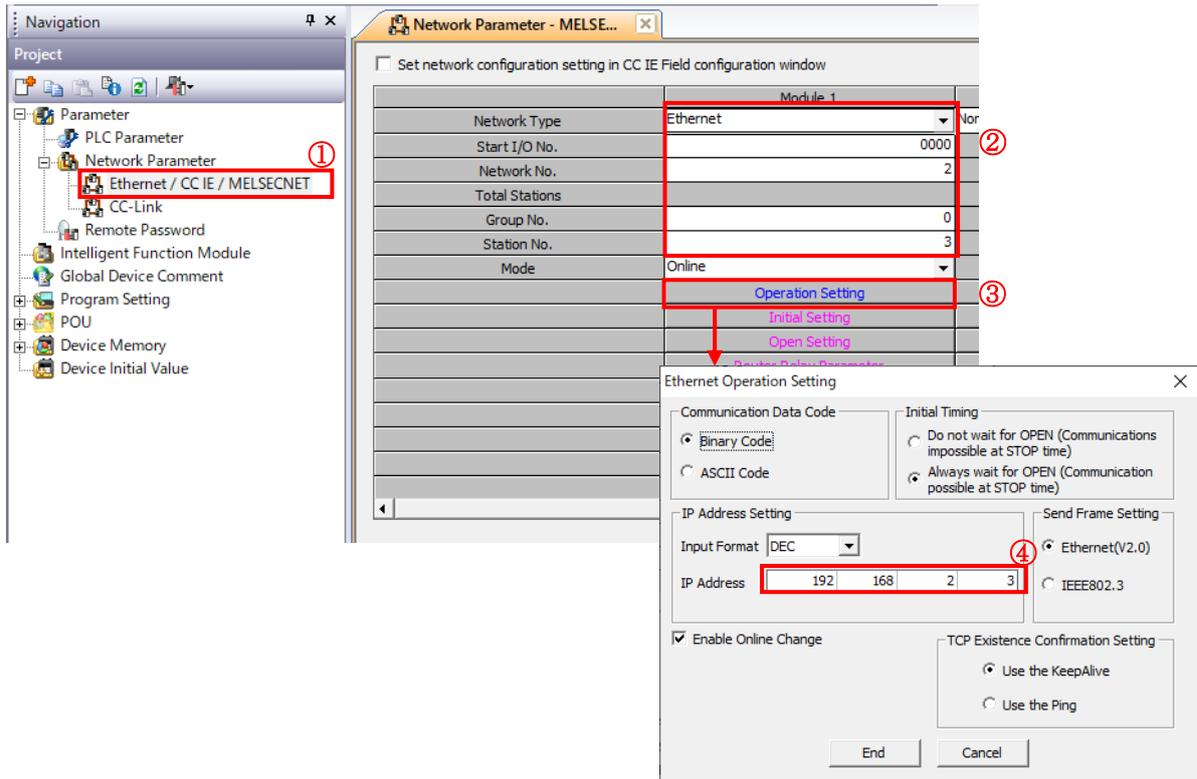

Figure 4-6 Extension Ethernet unit settings (Child PLCs)
① to ④ in Figure 4-6 show the setting steps of Expansion Ethernet Unit 1.
- ① From the navigation tree menu, click Ethernet/CC IE/MELSECNET.
- ② Select "Network type: Ethernet" in Unit 1 settings, and enter the network number and station number.
- ③ Opens the Operation Setting.
- ④ Enter the IP address.